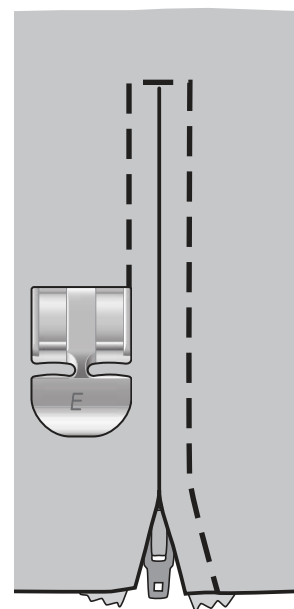

Fig. 3
6. Begin stitching across the bottom, turn the fabric and stitch the left side of the zipper sewing from the bottom to the top (see fig. 3).